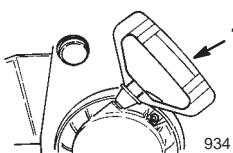

Figure 16
- **Recoil Starter** (Fig. 16)—The recoil starter is on the back side of the engine. Pull the recoil starter to start the engine.
- A. Grasp the recoil starter handle (Fig. 16) and pull it out slowly until positive engagement results; then pull the handle vigorously to start the engine.